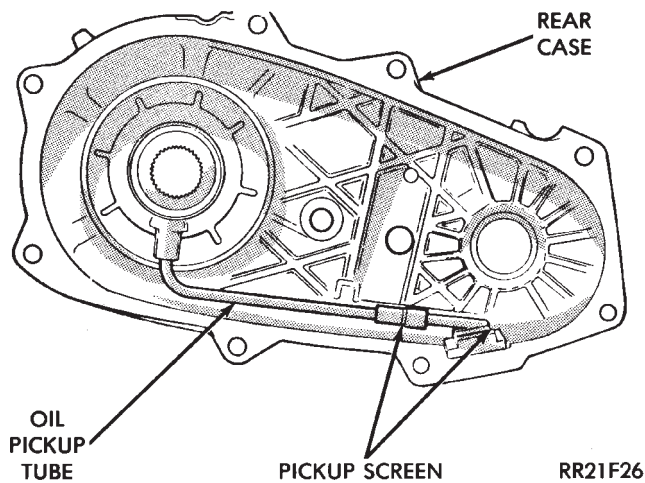

Fig. 60 Pickup Tube, Oil Screen And Pump Installation
(44) Insert oil pickup tube in oil pump. Then attach oil screen and connecting hose to pickup tube (Fig. 60).
(45) Install assembled oil pump, pickup tube and screen in rear case. Be sure screen is seated in case slot as shown (Fig. 60).